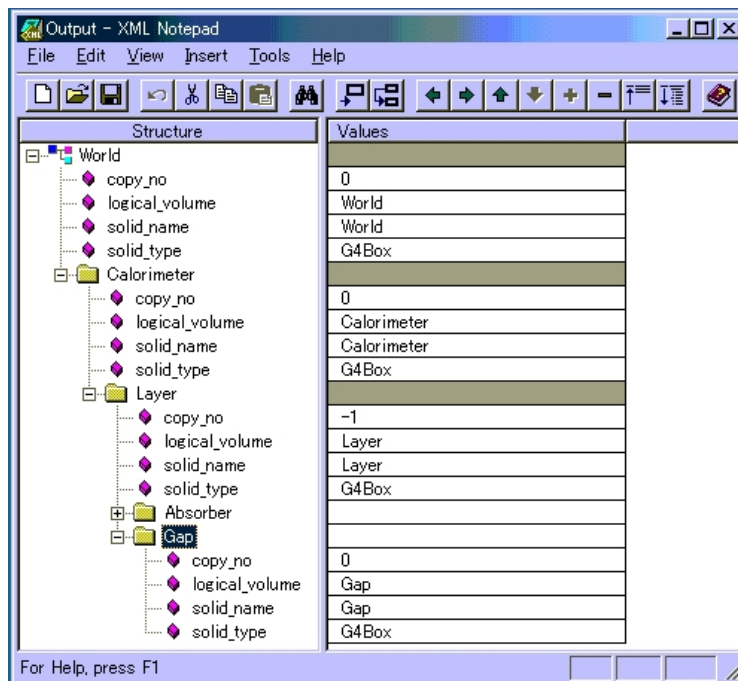

Fig. 8.2: XML Tree folding and un-folding.
- Folding and un-folding (Fig. 8.2):